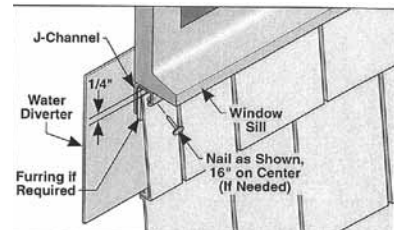

Fig.16
- Measure and cut panels around windows, allowing 1/4" into all window channels for movement. (see Figure 16).